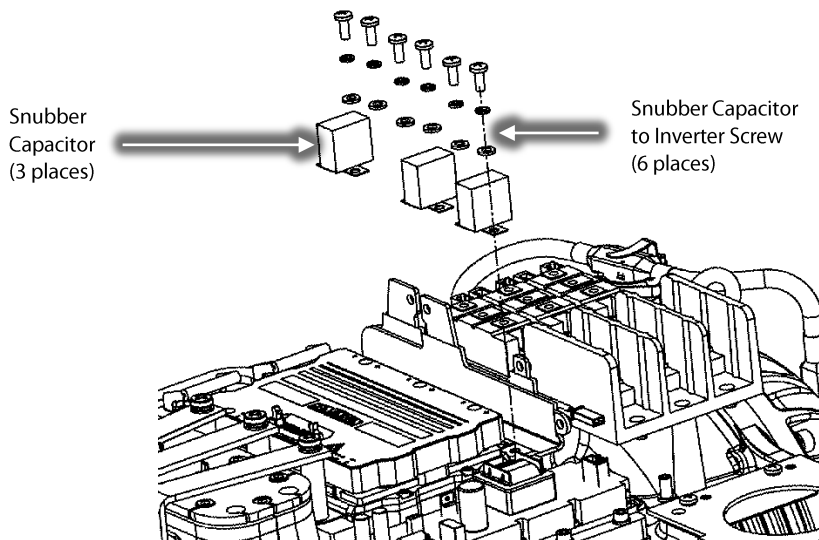

Figure 11 – Snubber Capacitor Removal
21. Disconnect the snubber capacitors from the Inverter noting the leg orientation of one leg is longer than the other. Refer to Figure 11 (Snubber Capacitor Removal).
13. Reinstall the DC Bus Bar and Capacitor Assembly over the Inverter. Then reconnect the snubber capacitors to the Inverter noting the leg orientation and torque to specification. Starting from the DC Bus Capacitor side, torque to 7 Nm (62 in.lb). Refer to Figure 11 (Snubber Capacitor Removal).